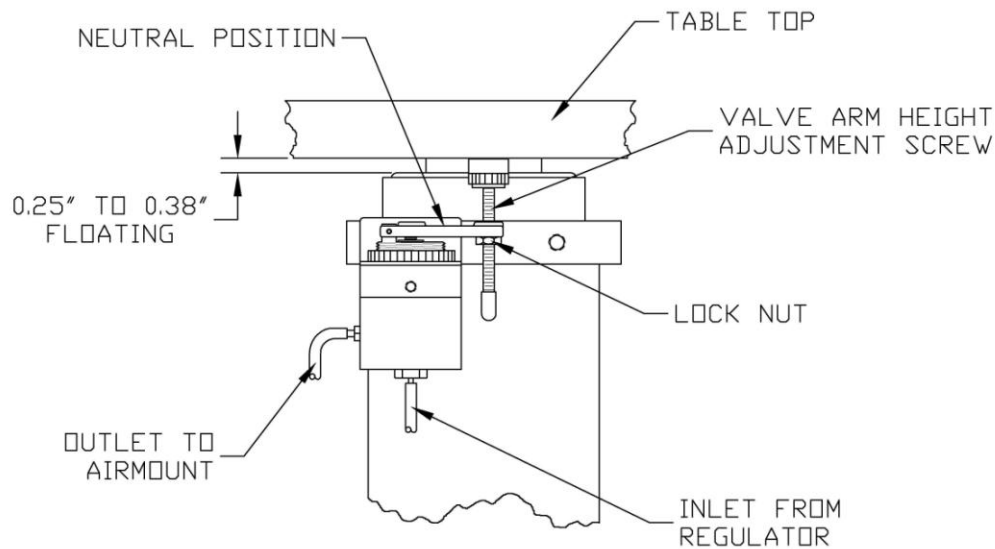

Fig. 11 Valve Adjustment Illustration.
7. When the Tabletop is completely “floating” adjust each Valve Adjustment Screw so that the Tabletop is floating approximately  $\frac{1}{4}$  of an inch (as shown in Fig. 11). The Tabletop should be level at this point since leveling was done prior to this by raising and lowering of the Mechanical leveling Feet.